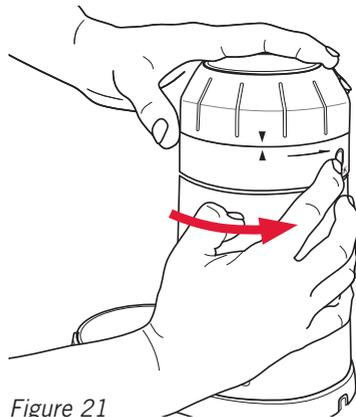

Figure 21
2. To remove the top burr turn the grind adjustment collar in an anti-clockwise direction until it stops, see figure 21.